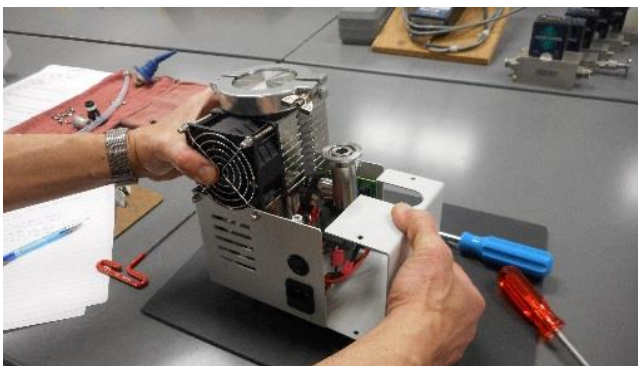

Fig 1
- Referring to Figure 1, remove the clip, upper middle, and lower nozzle.
3. Using the 3/32" hex wrench, first remove the (2) screws on the top of shroud and then the (4) screws on the bottom of shroud.
4. Using the 9/32" or 7mm nut driver, loosen and remove the nuts on one side of the (2) lower fan bolts, then pull out the bolts from the other side gripping the nuts to assist.
5. Slide the top/bottom shroud panel away from the NW25 exhaust port of the diffusion pump. See Fig 1.